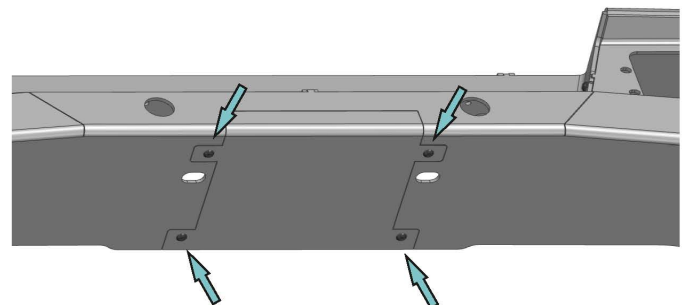

Fig. 36
33. Install bottom plug (item 7) onto bumper body (item 1) using screws M6 and washers 6 (item A,E) (Fig. 36).